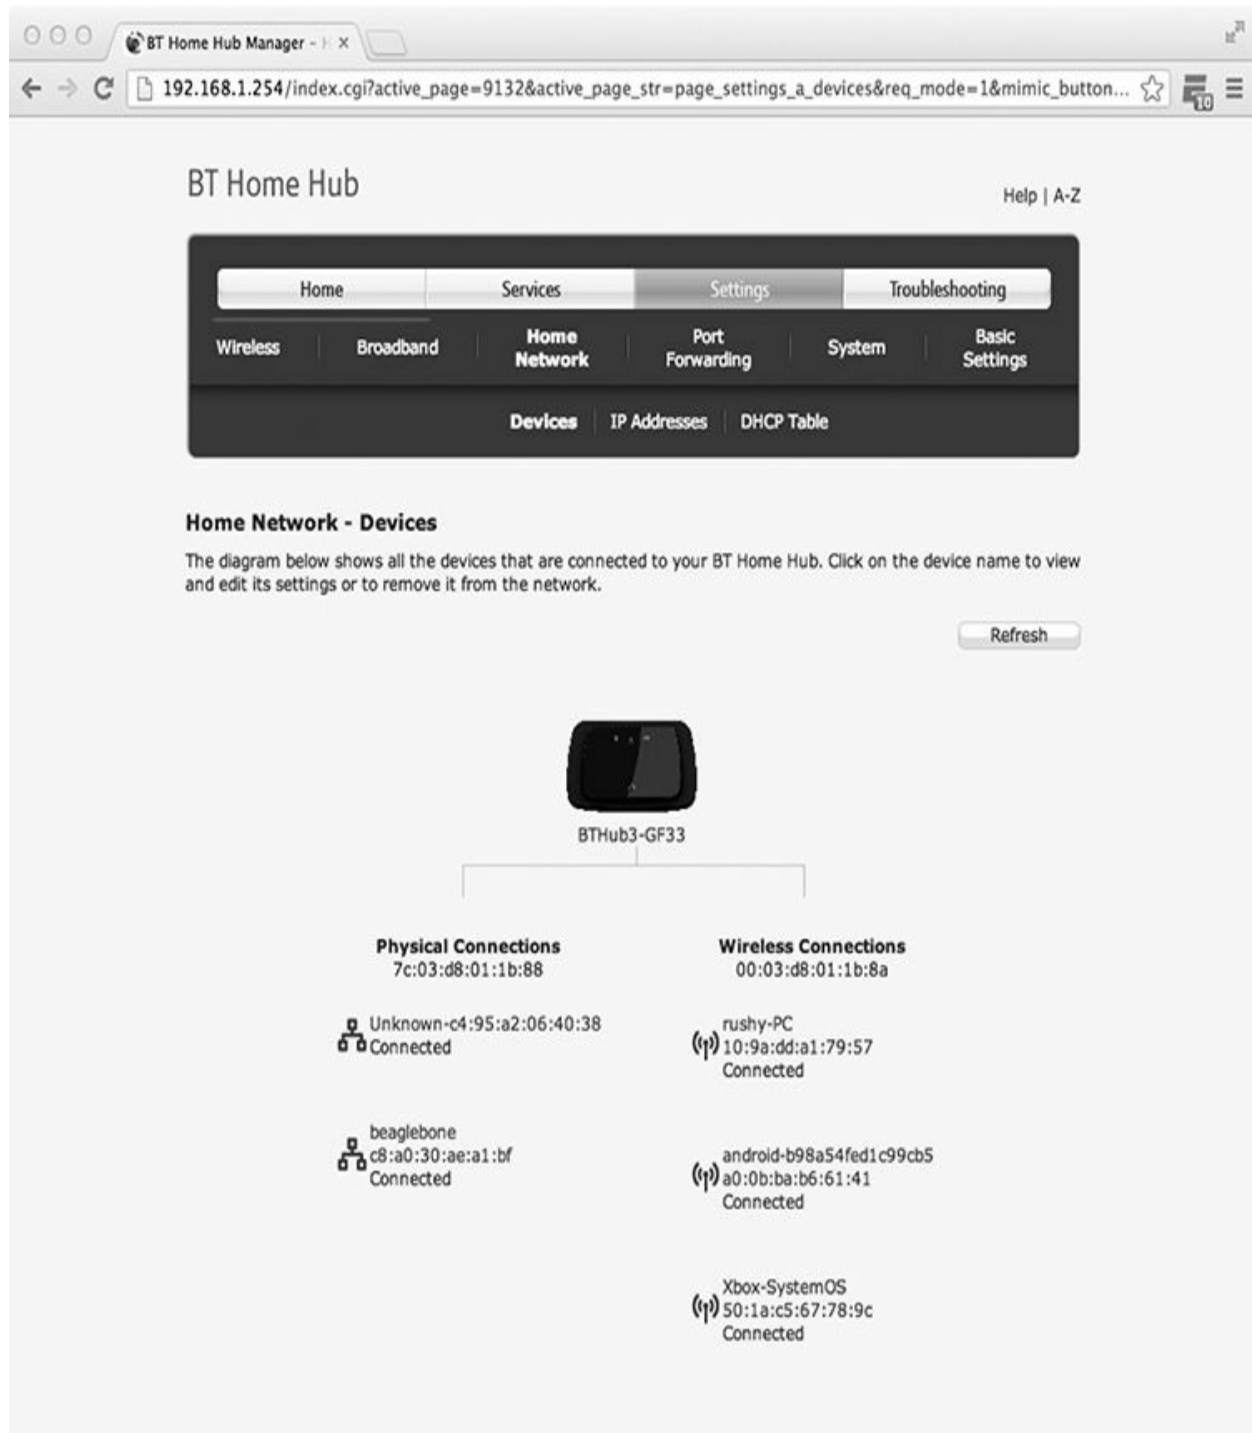

Figure 1-7 BBB IP address
Next, you need to find out what the BeagleBone Black's Internet Protocol (IP) address is so you can access it in your web browser. This address is automatically assigned to the BeagleBone Black using the Dynamic Host Control Protocol (DHCP) on your router/modem. The easiest way to find this is to open up your router/modem settings and locate the device under the wired Ethernet settings, like in Figure 1-7.